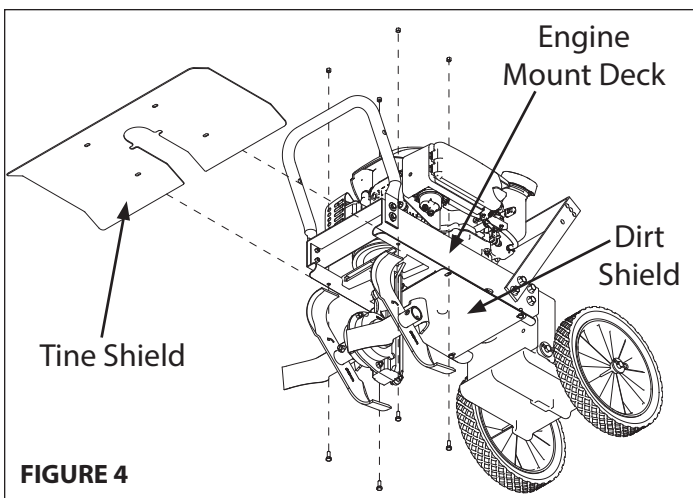

FIGURE 4
- Install tine shield using four M6 bolts and four M6 nylock nuts. Line up slots on both sides of shield and insert both bolts and nuts in place before fully tightening. **SEE FIGURE 4**